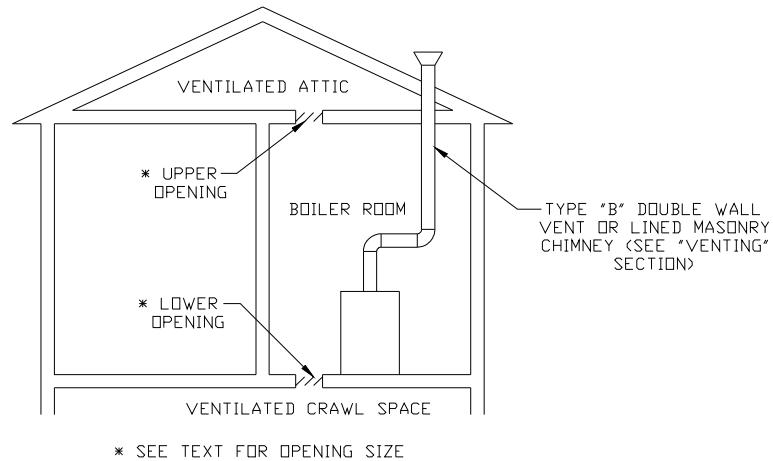
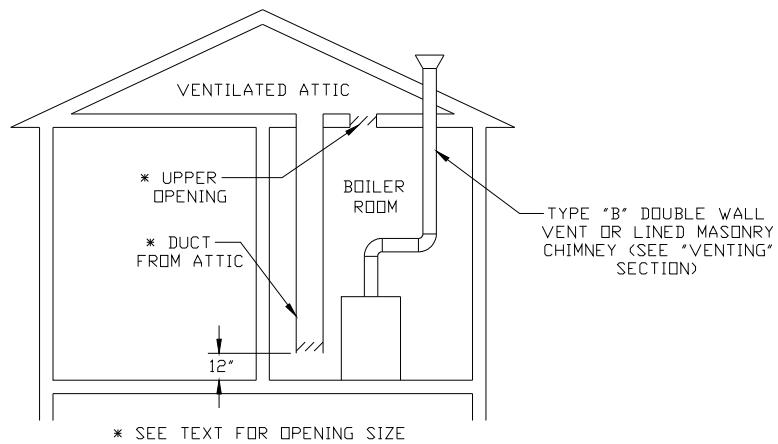
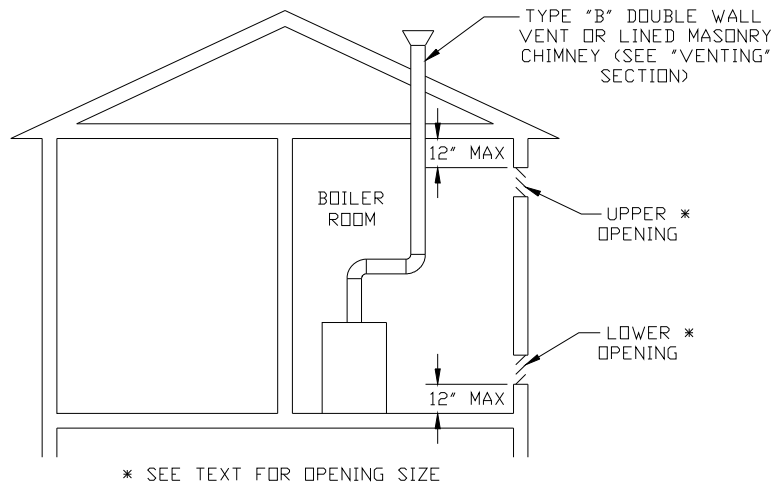

FIGURE 4: ALL AIR FROM OUTDOORS,
FIGURE 5: ALL AIR FROM OUTDOORS,
FIGURE 6: ALL AIR FROM OUTDOORS, USING OPENINGS INTO BOILER ROOM
- Vertical ducts or openings directly outdoors (Figure 4, Figure 5, and Figure 6) - Each opening must have a free cross sectional area of 1 square inch per 4000 BTU/hr of the total input of all gas-fired appliances in the boiler room but not less than 100 square inches. Minimum opening size is 3 inches.